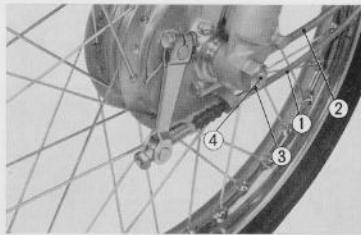

Fig. 4.57 Removing front brake cable
- (2) By removing the adjusting nut at the front wheel, the front brake cable ① can be removed from the front brake arm joint. (Fig. 4.57)
- (3) Front brake panel
Remove the front brake cable ① and the speedometer cable ② from the front brake panel. Remove the axle nut ③ and pull out the axle ④, then the front brake panel can be removed together with the front wheel. (Fig. 4.57)